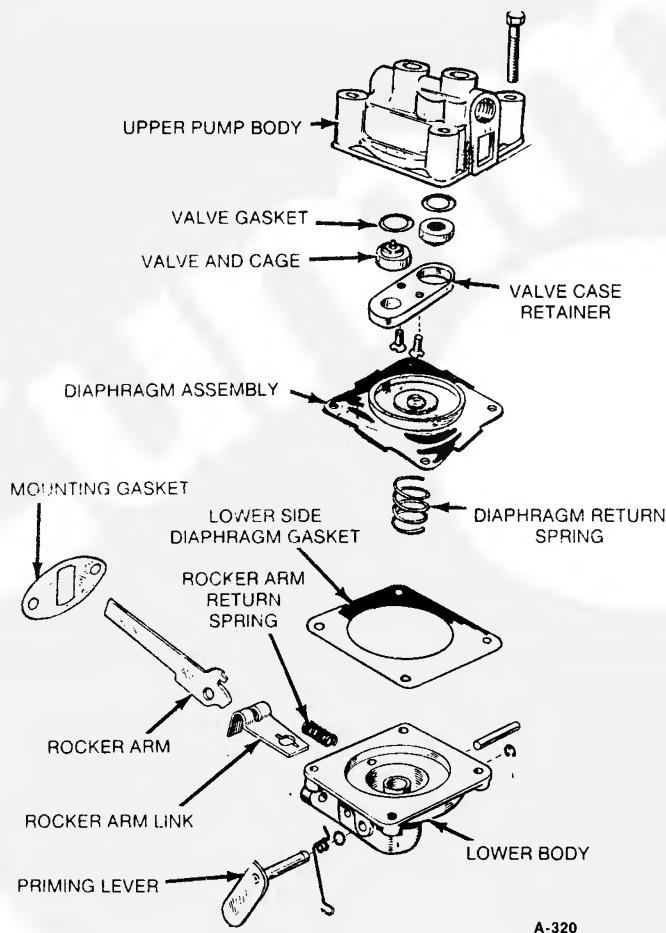

FIGURE 6-16. EXPLODED VIEW OF PUMP
3. Detach the valve cage retainer from the pump upper body. Noting their position, remove the valve and cage assemblies and their gaskets from the retainer (Figure 6-16).
4. Detach the pump diaphragm by pressing its metal base into the pump body and turning it 1/4 turn (Figure 6-16).